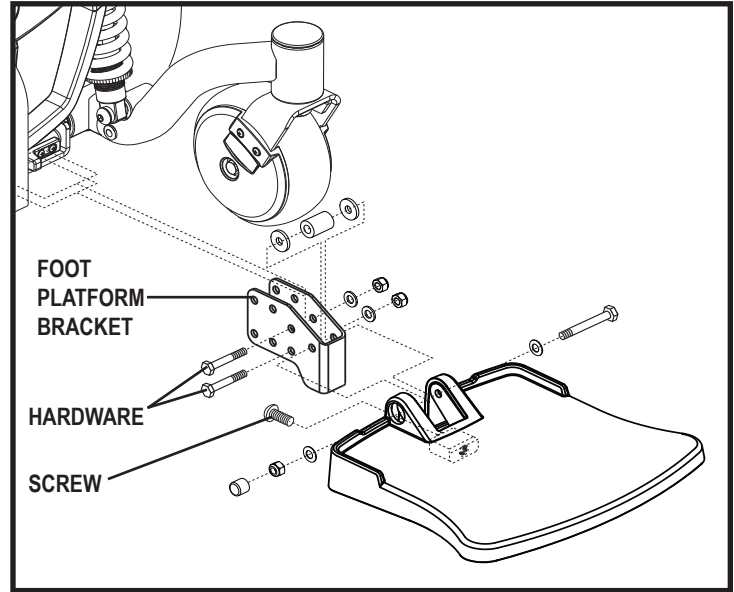

Figure 20. Foot Platform Adjustment
1. Remove the hardware from the foot platform bracket. See figure 20.
1. Flip up the foot platform and locate the screw. See figure 20.